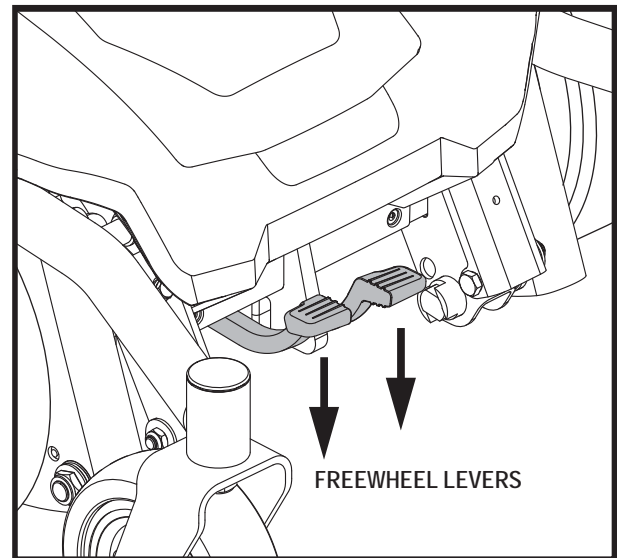

Figure 5. Freewheel Mode (Drive Disengaged)
3. Push both levers downward to disengage the drive motors (freewheel mode). **See figure 5.**